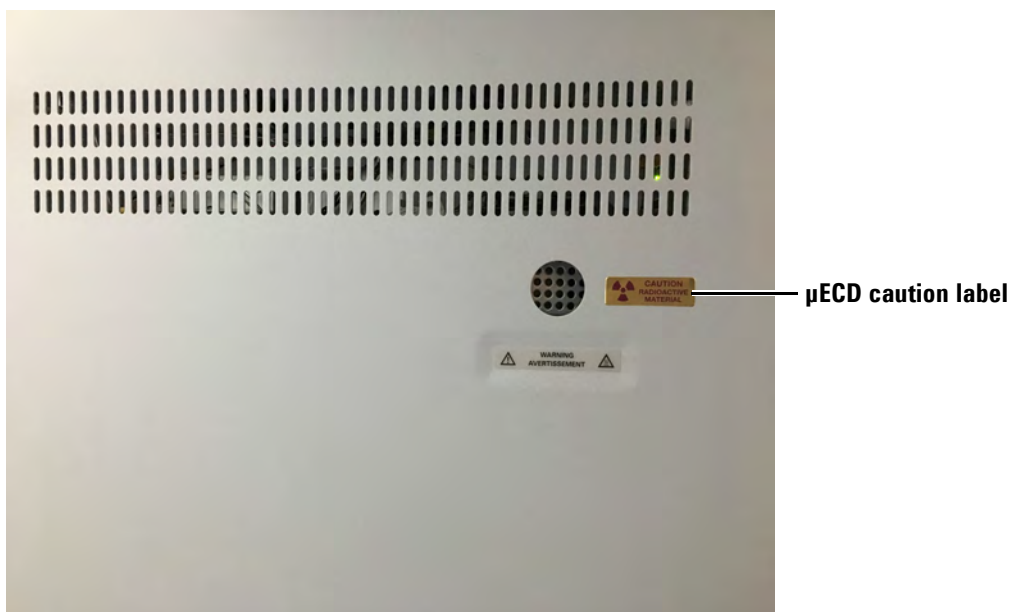

Figure 30 Slide the cover back on and attach the μ ECD caution label
- 1 Slide the 3rd detector box cover over the 3rd detector box and secure with M4 flathead screws using the T20 torque driver. See Figure 30.
- 2 Place the μ ECD caution label on the 3rd detector box cover. See Figure 30.